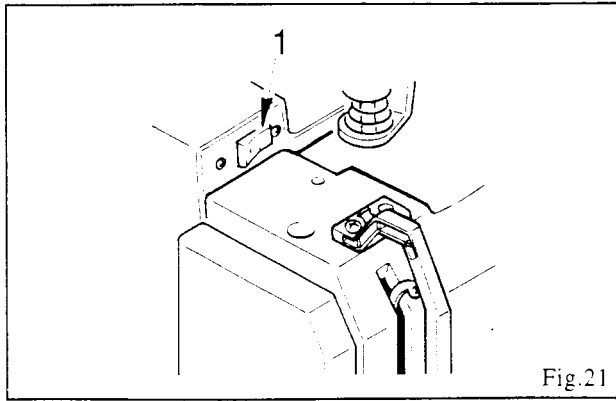

Fig.21
The wiper is very convenient for sewing operation such as sewing the needle thread end into the stitches on the underside of the fabric. Turn switch (1) off when wiper is not required for sewing operation. (Fig. 21)